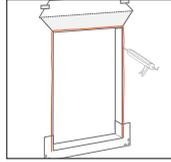

fig. 11
- Apply a continuous 3/8" nominal bead of caulk at the window head and jambs to wall or back side of the window mounting flange. Align with the pre-punched nailing fin holes. DO NOT APPLY CAULK ACROSS BOTTOM SILL FLANGE OR WALL to allow for drainage. (fig. 11)